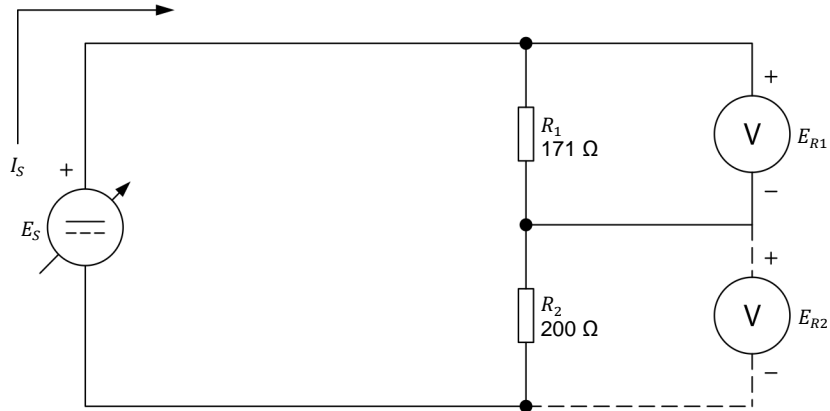

Figure 30. Circuit made of resistors connected in series.
3. Set up the circuit shown in Figure 30. To obtain the resistor arrangement of Figure 30, make the necessary connections and switch settings on the **Resistive Load** module.
6. Calculate the equivalent resistance  $R_{Eq.}$  of the series resistors in Figure 30. Then, calculate the source current  $I_S$  based on the equivalent resistance  $R_{Eq.}$  and the source voltage  $E_S$  of 50 V.
10. Disconnect the voltmeter from resistor  $R_1$  and connect it across resistor  $R_2$ , as Figure 30 shows.